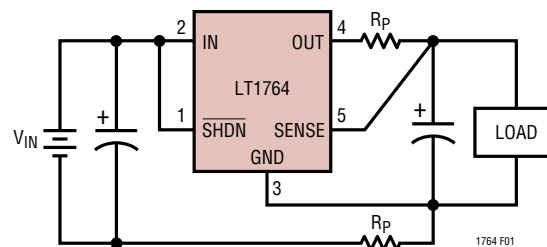

Figure 1. Kelvin Sense Connection
**SENSE (Pin 5/Pin 6):** Sense. For fixed voltage versions of the LT1764 (LT1764-1.8/LT1764-2.5/LT1764-3.3), the SENSE pin is the input to the error amplifier. Optimum regulation will be obtained at the point where the SENSE pin is connected to the OUT pin of the regulator. In critical applications, small voltage drops are caused by the resistance ( $R_P$ ) of PC traces between the regulator and the load. These may be eliminated by connecting the SENSE pin to the output at the load as shown in Figure 1 (Kelvin Sense Connection). Note that the voltage drop across the external PC traces will add to the dropout voltage of the regulator. The SENSE pin bias current is 600 $\mu$ A at the nominal rated output voltage. The SENSE pin can be pulled below ground (as in a dual supply system where the regulator load is returned to a negative supply) and still allow the device to start and operate.